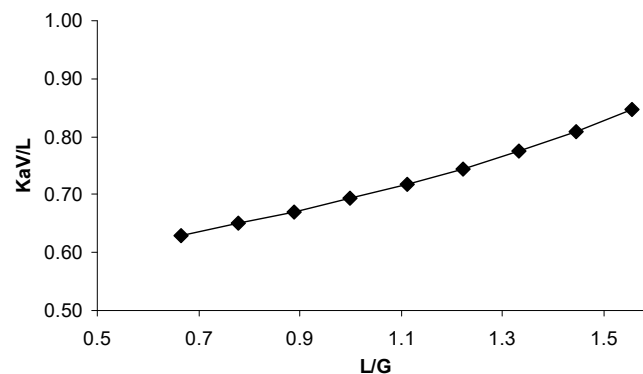

Figure 4 Relationship of Tower Characteristic and Loading capacity ratio at given Approach 5 °C.
(1) The Approach line of 5 °C
The Approach line of 5 °C is a plot to illustrate the relationship between tower characteristic term (KaV/L) and loading capacity ratio in term of L/G by a given constant of the 5 °C difference of the wet bulb temperature of the ambient air inlet to the temperature of cooling water outlet. Due to the Tchebycheff's method in Equation (4) by changing the loading capacity ratio L/G within the range of 60% to 140% of desired design conditions as shown in **Table 1** and Figure 4.